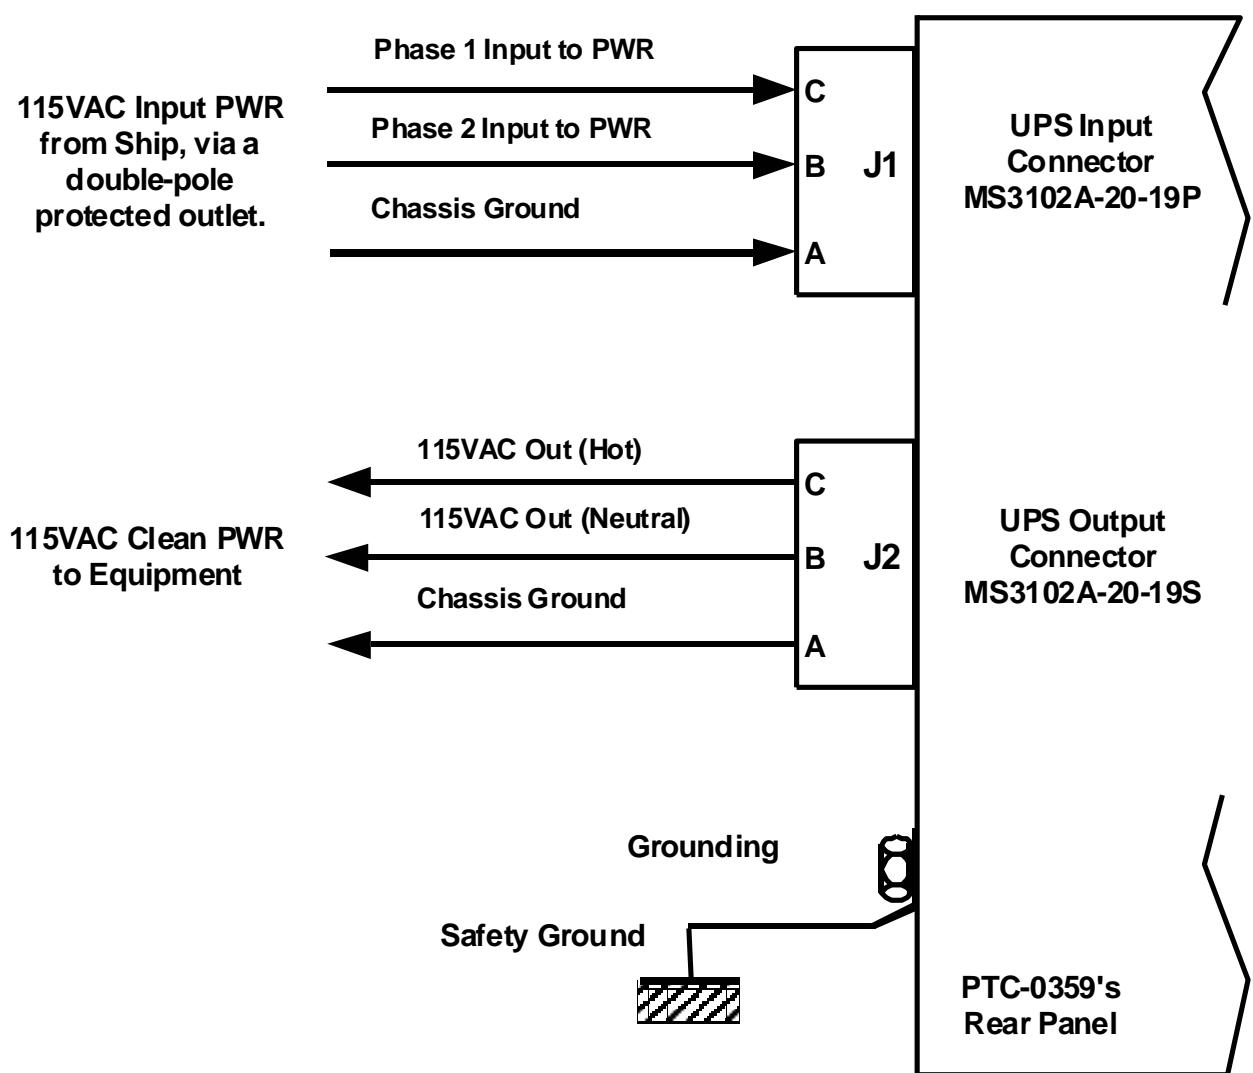

Figure 2: Electrical Connections
- ✓ Verify that the cables that will interface with the UPS are wired in accordance with Figure 2 (see next page).
39. J2 Output Power Connector (see Figure 2 for pin-out).
40. J1 Input Power Connector (see Figure 2 for pin-out).